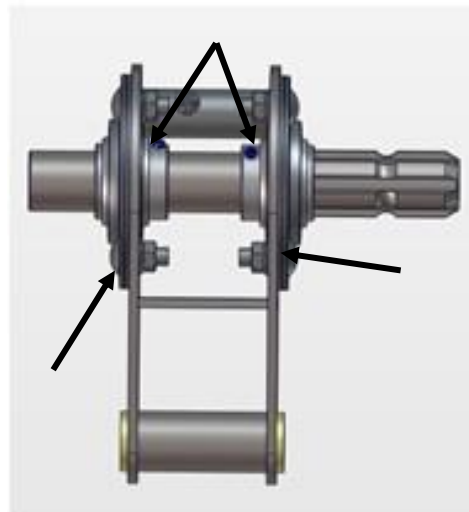

Figure 77
7. Remove the bearing flangettes and the bearings off the shaft. Figure 77
9. The bearings are held on with a split lock collar bearing, Figure 77. Torque the Torx screws in this lock collar to 97 in. lbs